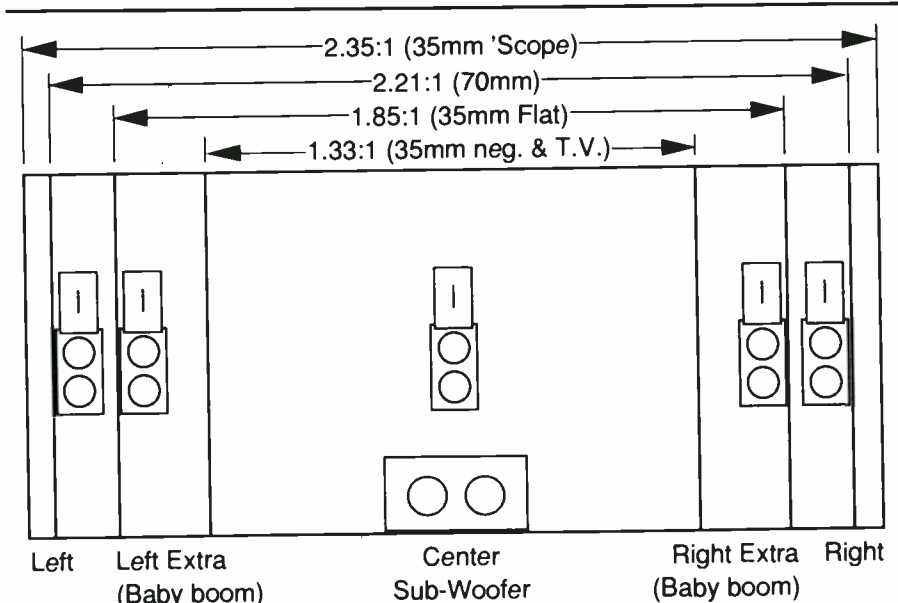

FIGURE 1: Comparison of different aspect ratios and THX speaker placement.
**TH:** Everything shot today—since *Lawrence of Arabia*—originates on 35mm film in one of two formats (*Fig. 1*). In the Cinemascope format, the picture is squeezed onto the film and expanded on projection, and the aspect ratio is 2.35 to 1. When that kind of Cinemascope negative is blown up to 70, it's de-anamorphized, spread out, and the outsides are cropped down to 2.2 to 1. So it's not exact. That was in order to provide sound track area inside the perforations. There were also existing standards. That accounts for maybe less than a quarter, maybe 20% of the negatives shot in Cinemascope.